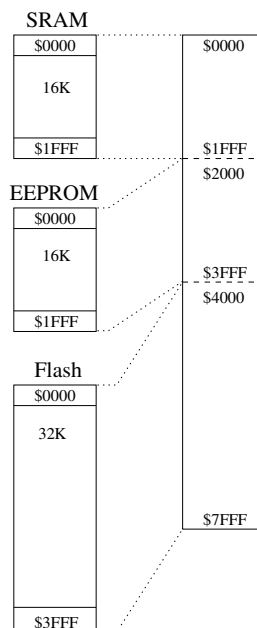

Figure 2.8: Different memory types mapped into one address range.
- All memory types share a common address range, see Figure 2.8.